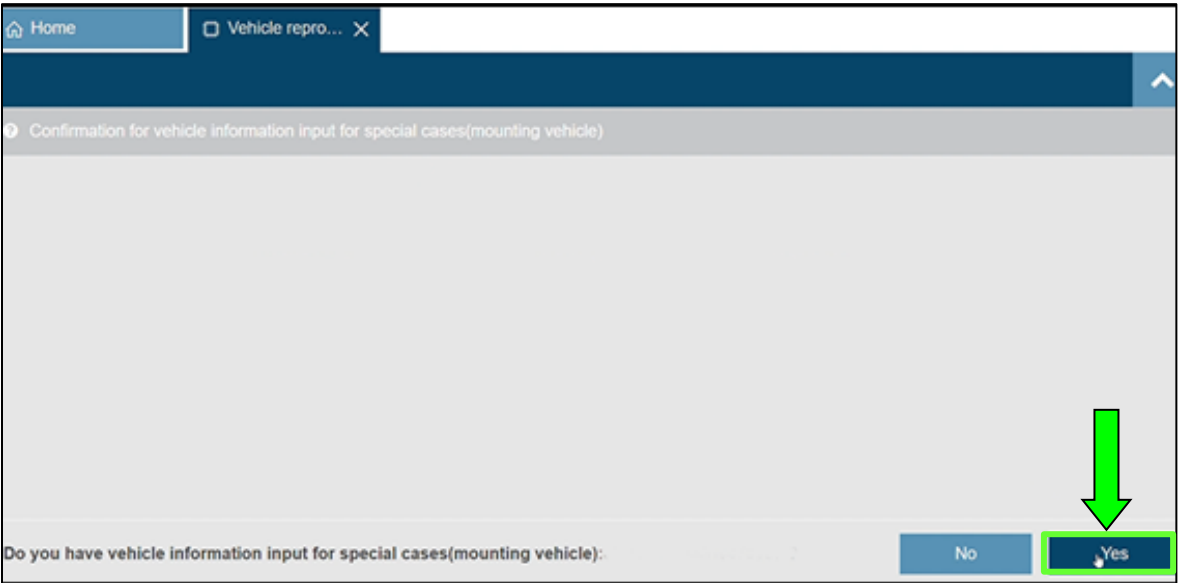

Figure 15
- 17. When the screen shown in Figure 15 is displayed, select **Yes**.